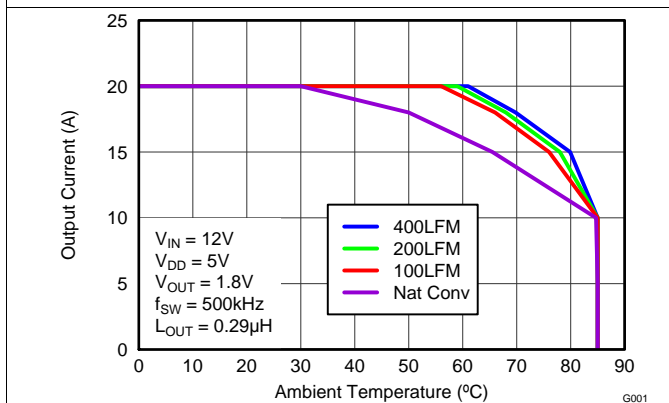
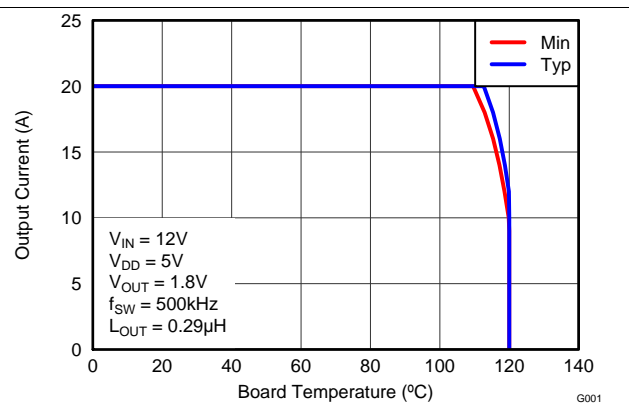

Figure 3. Safe Operating Area (SOA) – PCB Horizontal Mount (1)
Figure 4. Typical SOA (1)
The SOA curves in the CSD95379Q3M data sheet give engineers guidance on the temperature boundaries within an operating system by incorporating the thermal resistance and system power loss. Figure 3 and Figure 4 outline the temperature and airflow conditions required for a given load current. The area under the curve dictates the safe operating area. All the curves are based on measurements made on a PCB design with dimensions of 4 inches (W) × 3.5 inches (L) × 0.062 inch (T) and 6 copper layers of 1 oz. copper thickness.